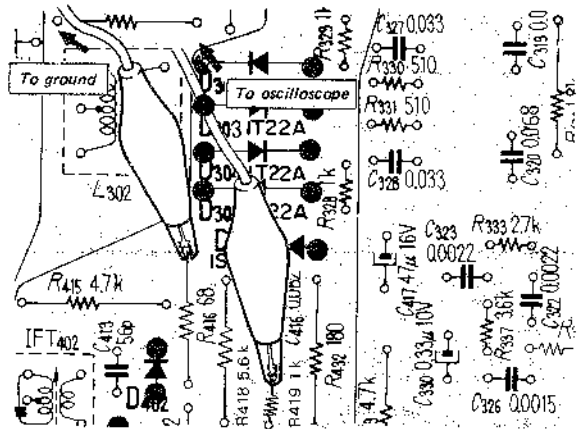

Fig. 3-14. A-m detector output connection
2. Connect the input cable of the oscilloscope with alligator clips to the connection point of R418 and R419 and ground on the fm (a-m) front-end/i-f amp/MPX board as shown in Fig. 3-14.